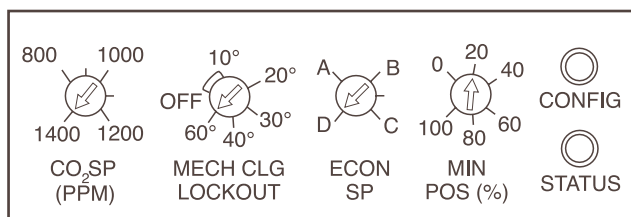

Fig. 40 — EconoMi\$er Control Adjustment Potentiometers (Factory Settings)
2. Locate the CO₂ SP (PPM) potentiometer and adjust to the desired set point. See Fig. 40.
Mechanical Cooling Lockout — Determine the outdoor-air temperature at which you want the mechanical cooling (compressors) to be disabled. Locate the mechanical cooling lockout (MECH CLG LOCKOUT) potentiometer. To disable this feature, turn the potentiometer counterclockwise (CCW) to the OFF position. Otherwise, set the value between 10 and 60 F. Mechanical cooling will not operate when the outdoor air temperature is below this value. See Fig. 40.
Dry Bulb Changeover Set Up — Determine the dry bulb changeover set point from Table 3. The settings are A, B, C and D. Locate the ECON SP potentiometer and set the dry bulb changeover set point. See Fig. 40. When the OAT is above this set point, the damper is limited to minimum position setting.
2. Locate the minimum position (MIN POS) potentiometer. Turn the potentiometer full CCW to fully close the outdoor air dampers. Turn the potentiometer gradually clockwise (CW) to the desired position. See Fig. 40.